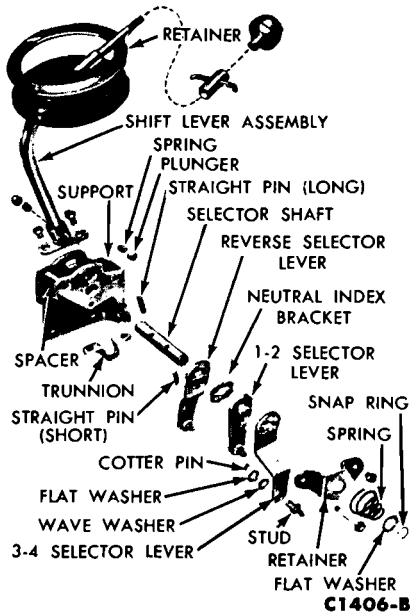

FIG. 12—Gearshift Lever Disassembled—Typical
16. Install the selector levers and neutral index on the shaft as shown in Fig. 12.